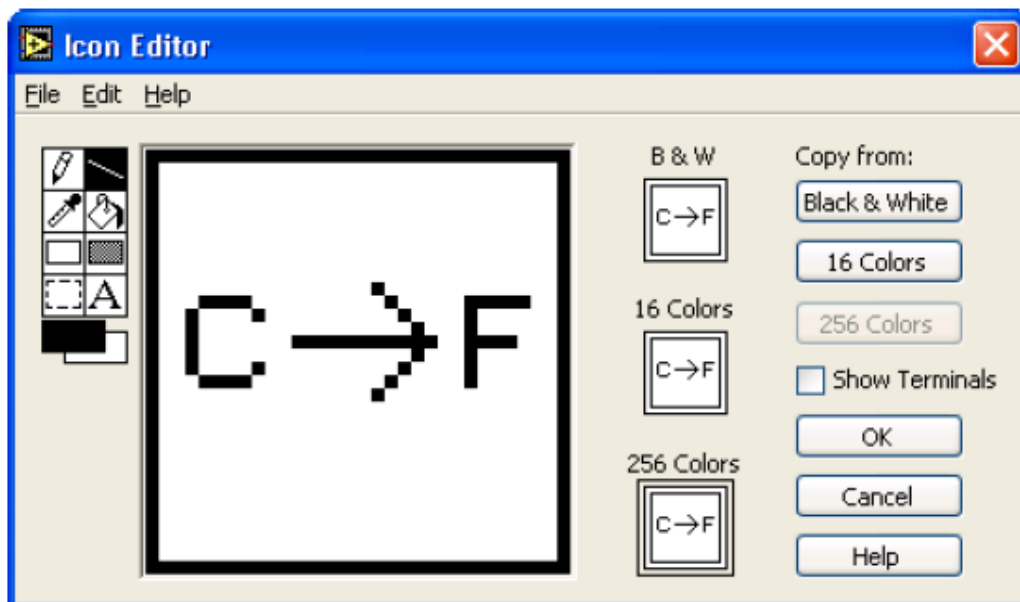

Figure 3
5. Create the icon in Figure 3.